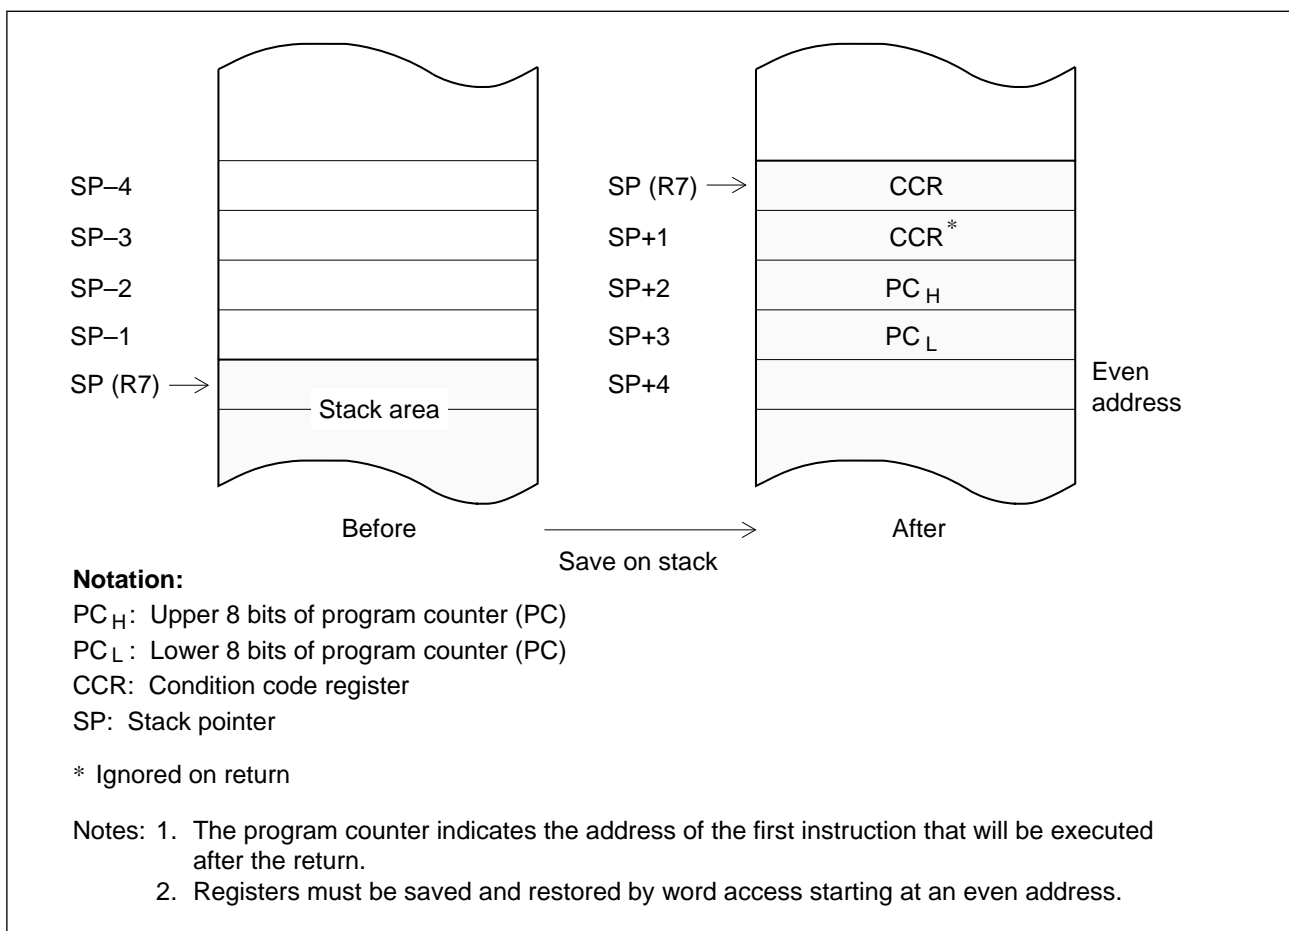

Figure 2-14. Stack before and after Interrupt Exception-Handling Sequence
1. When the interrupt request is accepted, a transition takes place from the sleep mode to the exception processing state. The program counter and condition code register are saved on the stack as shown in figure 2-14. The program counter address saved on the stack is the address of the first instruction that will be executed after the return from the interrupt-handling routine.